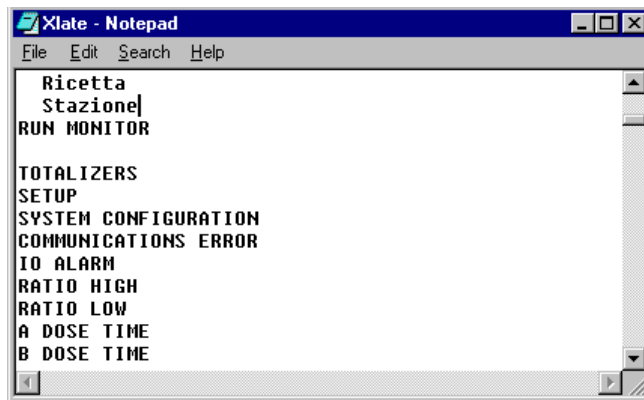

Fig. 13.54
- c. Open the text file and replace the English text with the desired translation. See Fig. 13.54.